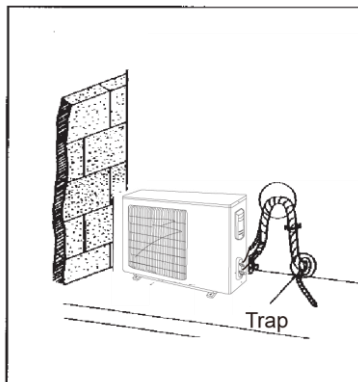

Fig. 4.17
- (2). If the outdoor unit is installed higher than the indoor unit (See Fig. 4.17)